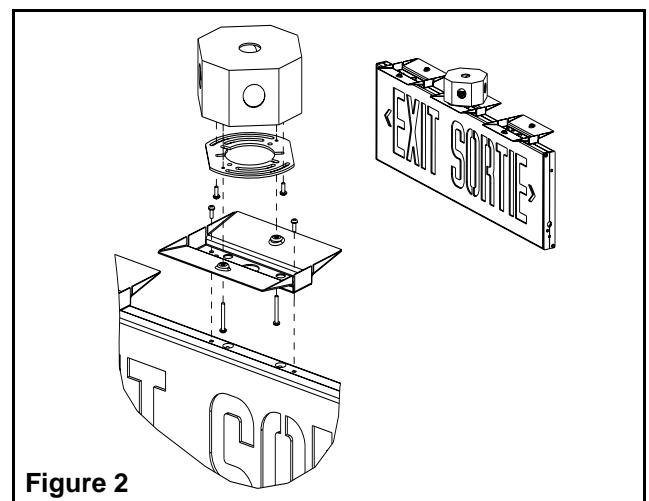

Figure 2
- a. There are three canopies assembled to the sign (see fig. 2).
- For ceiling mount** — Use the six canopy screws 1" to fix the three canopies. Insert the screws through the canopies and into the spider plates (see fig. 2).